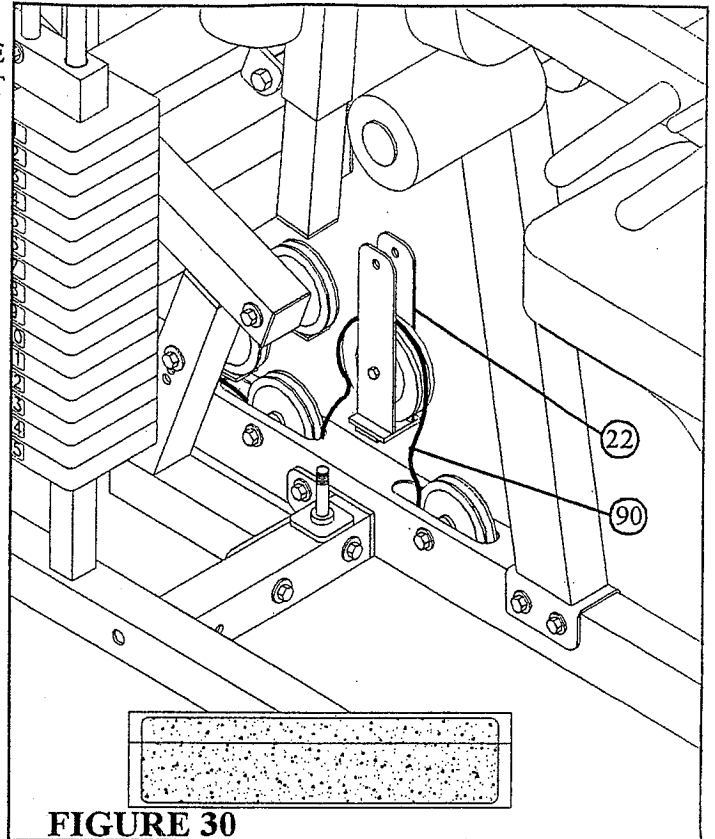

**FIGURE 29**
- Assemble one 3-1/2" PULLEY (79) to the other FLOATING PULLEY BRACKET (22) using one 3/8 X 1-3/4" BOLT (36) and one 3/8" LOCK-NUT (48) as shown in FIGURE 29.
- Attach two 1" X 1" GLIDES (87) to the bottom of the second FLOATING PULLEY BRACKET (22) as shown.